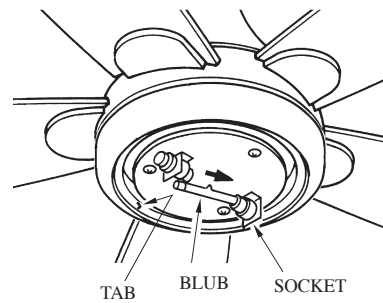

FIG.9
2. Plug the halogen bulb into the sockets. Do not touch the glass bulb with your fingers. It is extremely important that the glass be clean. If it is touched, or dirty, clean carefully with a tissue. A dirty glass bulb will cause the bulb to fail almost immediately (see FIG 9).